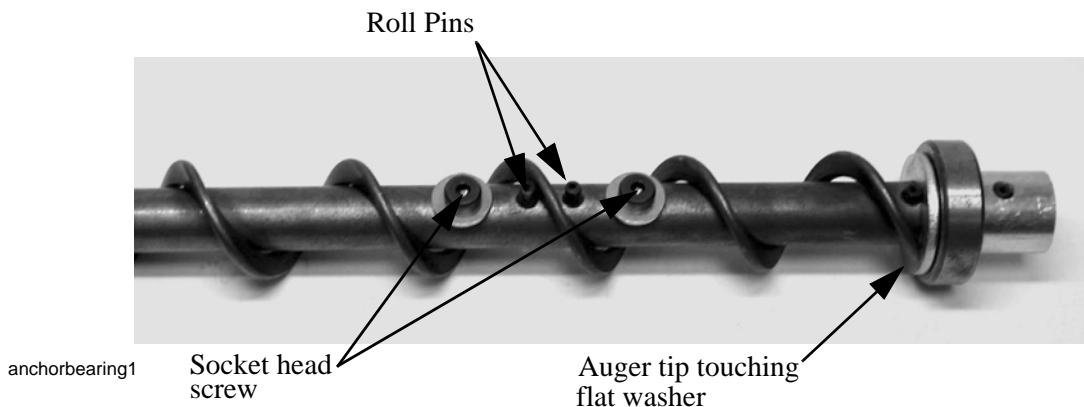

Figure 42. Anchor Bearing
15. Insert the Anchor Assembly into the auger until it touches the washer at the back of the anchor. Tighten the setscrews in the center of the anchor until they touch the auger, then tighten a maximum of 1/2 turn. See **Figure 42**. Do Not Overtighten Set Screws.